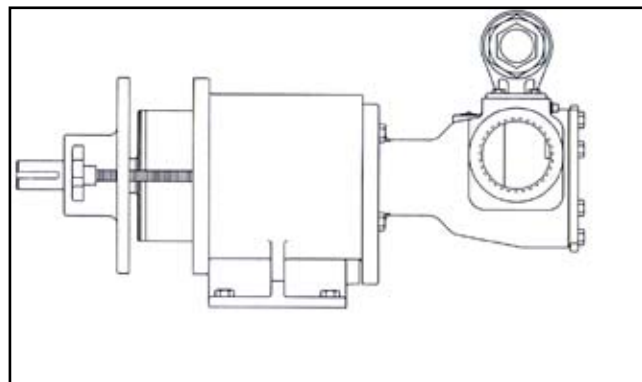

FIGURE 39
4. The outer magnet should be installed into the bearing housing, if not refer to **DISASSEMBLY/ASSEMBLY OF BEARING HOUSING, page 10.** Install the hand knobs so that 4" of threads are projecting below housing. Support the bearing housing from over head and gently position the magnet over the canister so the magnet assemblies start to engage. Evenly back out the hand knobs. **See Figure 39.** The bearing housing should move toward the bracket as the hand knobs are removed.